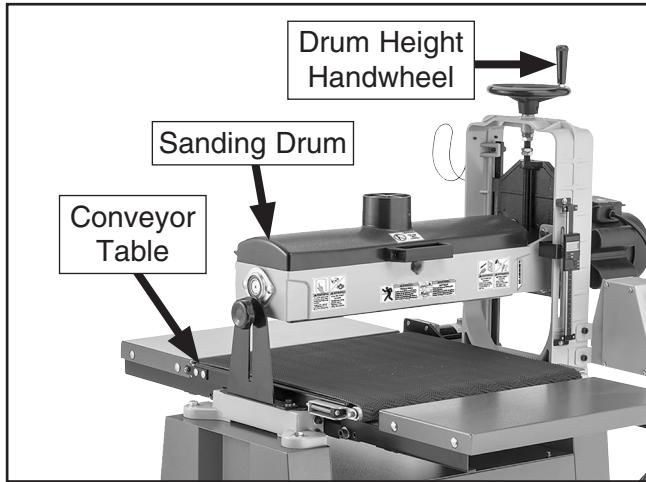

Figure 33. Drum height components.
2. Rotate drum height handwheel (see **Figure 33**) until sanding drum is well above conveyor table, then lower sanding drum, allowing a gap between workpiece and sanding drum.